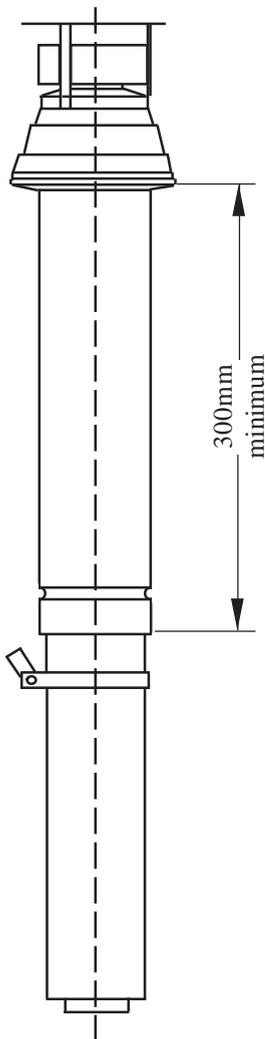

Fig. 3
- 6.2.9 The flue/air duct spigot on the appliance is female. For horizontal flued appliances, the flue/air duct should be constructed such that condensate cannot leak from the joints. Therefore, on vertical runs, all female ends should face away from the appliance, and on horizontal runs should face towards the appliance, as depicted in Fig. 3. To reverse the lay of joints, it is recommended to use male/male adaptors, available from Johnson & Starley (Pt Nos. 1000-0002840 [inner], and 1000-0002850 [outer]). The flue should be constructed working from the appliance towards the telescopic flue.